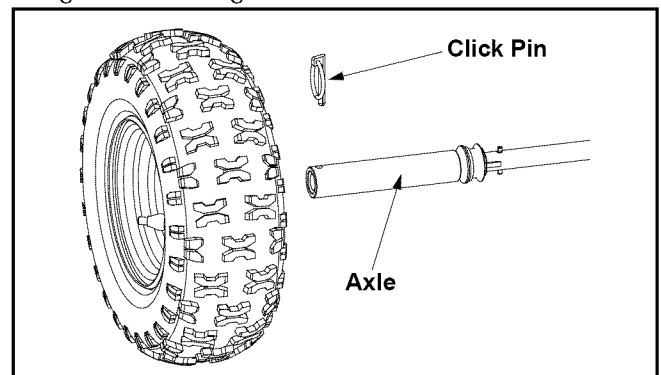

Figure 25
- Oil or spray lubricant into bearings at least once a season. Pull the click pin and remove wheels, clean and coat axles with a multipurpose automotive grease. See Figure 25.